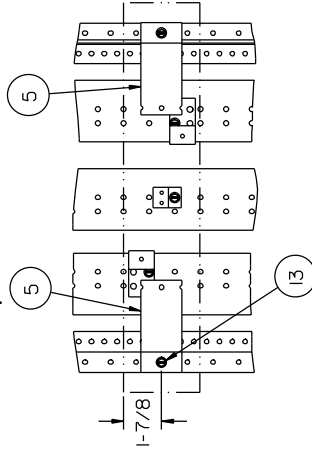

Figure 5
6. Reference fig. 5 - Attach the Barrier Supports. Locate a 0.228" diameter hole in the left Z-rail 1-7/8" below the top of the empty unit space selected. Insert a 1/4-20 X 3/8" screw (item 13) through the Ø 0.312 hole in a Barrier Support (item 5) and into the selected hole in the Z-rail (orienting the Barrier Support as shown) and tighten. Repeat this step for the second Barrier Support. Torque all hardware as specified on the rear of the deadfront.